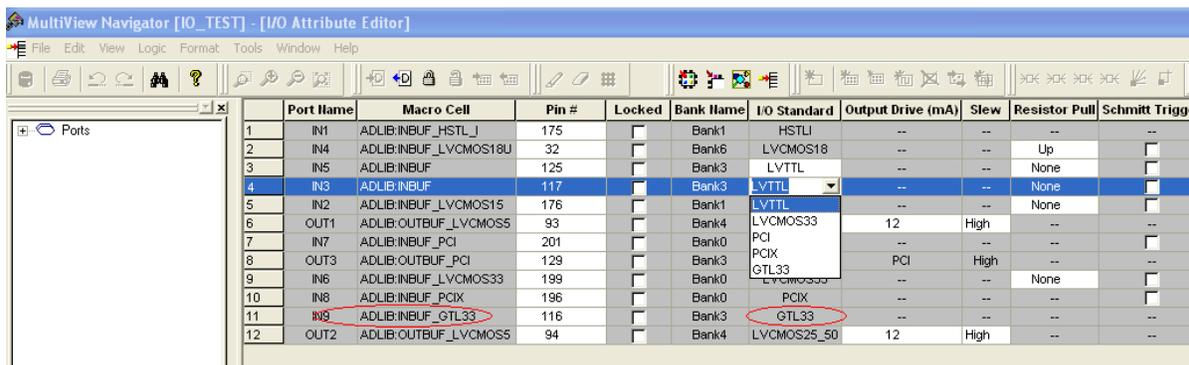

Figure 13-6 • Assigning a Different I/O Standard to the Generic I/O Macro
- Users will need to use the I/O Attribute Editor in Designer to change the default I/O standard if needed (see Figure 13-6 on page 319).
- The I/O standard of technology-specific I/O macros cannot be changed in the I/O Attribute Editor (see Figure 13-6).